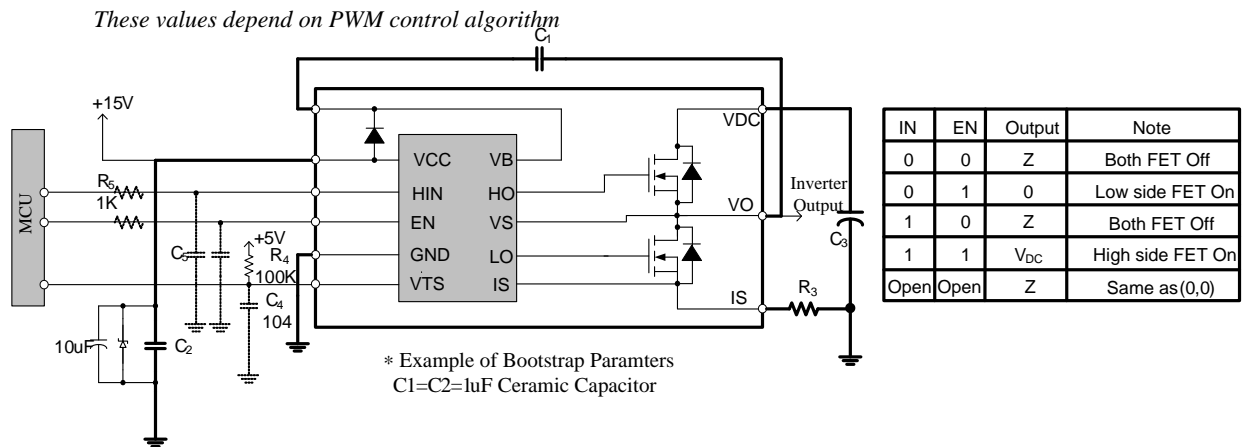

Figure 4. Recommended MCU Interface and Bootstrap Circuit with Parameters
1. Source terminal of each low-side MOSFET is not connected to supply ground or bias voltage ground inside IPM. External connections should be made as indicated in Figure 4.